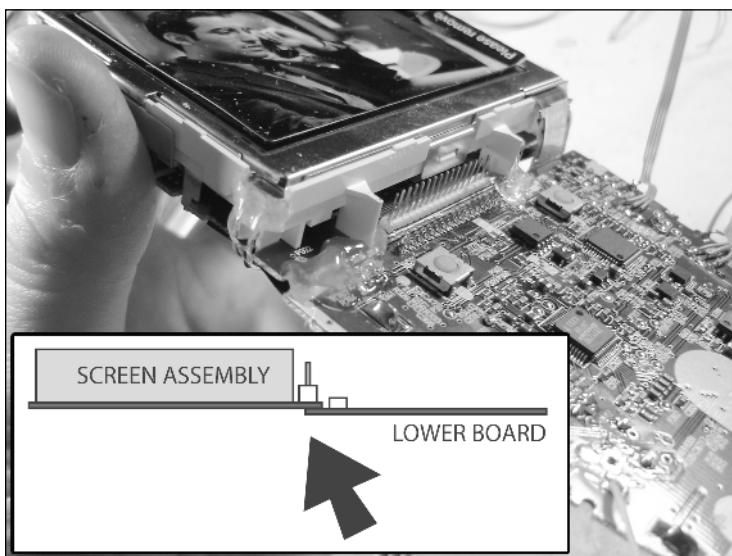

FIGURE 4-16: Placing the lower board against the screen assembly.
1. First, place the lower board just under the lip of the screen assembly and hot-glue it into place, as shown in Figure 4-16. *Make sure* the ribbon cable is behind the lower board before you attach them. Hot-glue it on both sides, keeping the boards as straight as possible.